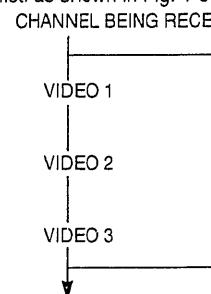

Fig. 1-6-3-4. Channel being received.
1. Every time the AVX selection button is pressed, the input of the picture displayed on the screen changes in sequence as shown in Fig. 1-6-3-4.